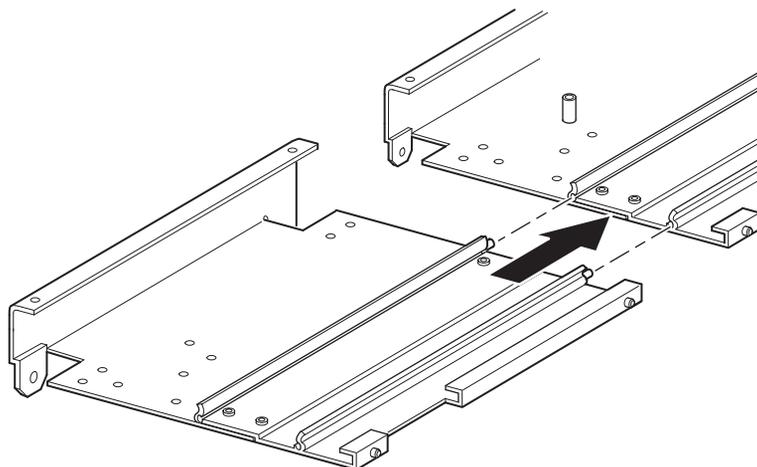

Figure 17: Mounting a 5U or 10U extension
9. Mount a 5U or 10U extension as follows (see Figure 17):